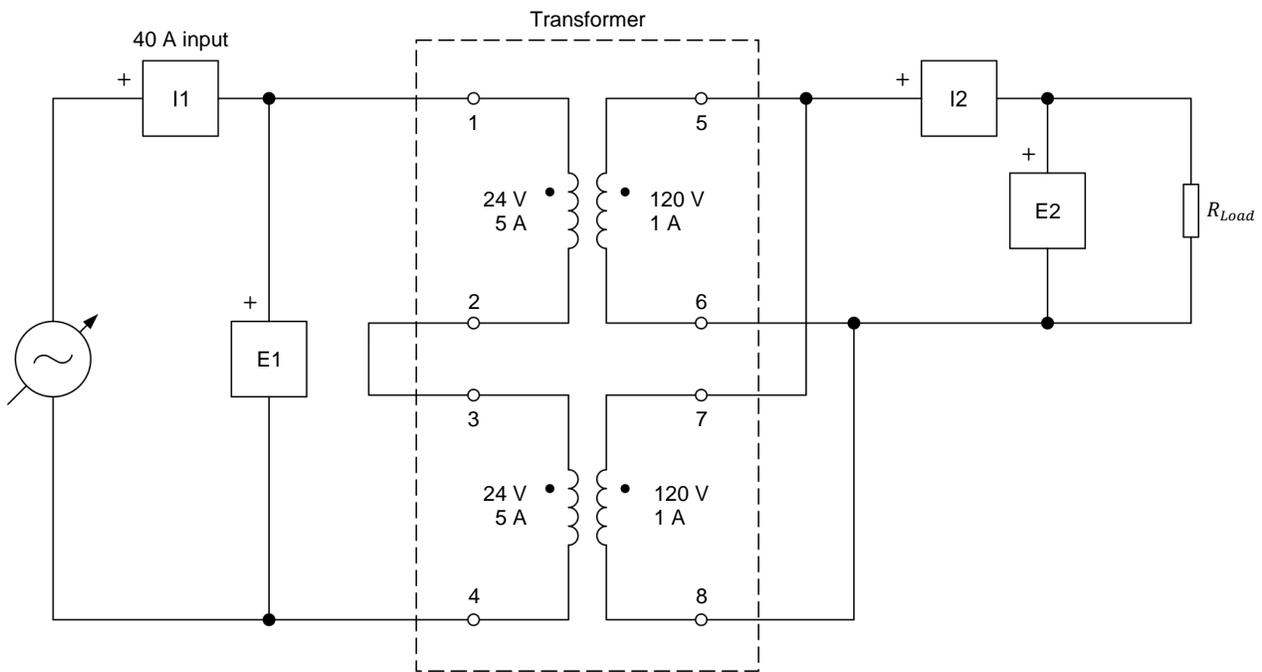

Figure 31. Step-up transformer connected to a resistive load.
34. Connect the equipment as shown in Figure 31.